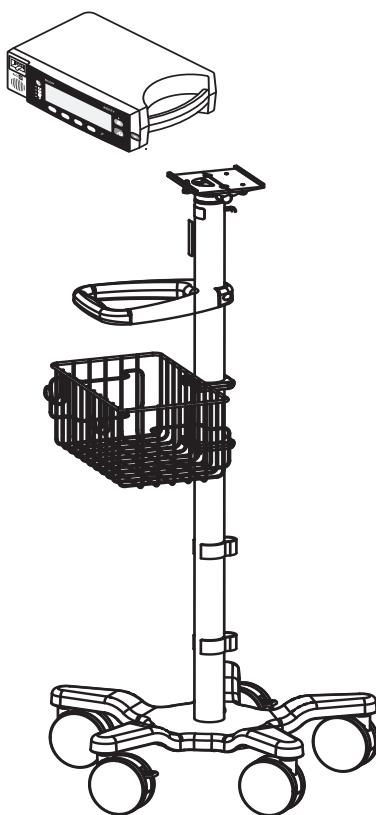

Figure 9: GCX Roll Stand
- GCX Roll Stand. See Figure 9 on page 123.
The GCX roll stand attaches to the N-600x GCX mounting plate as shown in Figure 9. For further instructions regarding